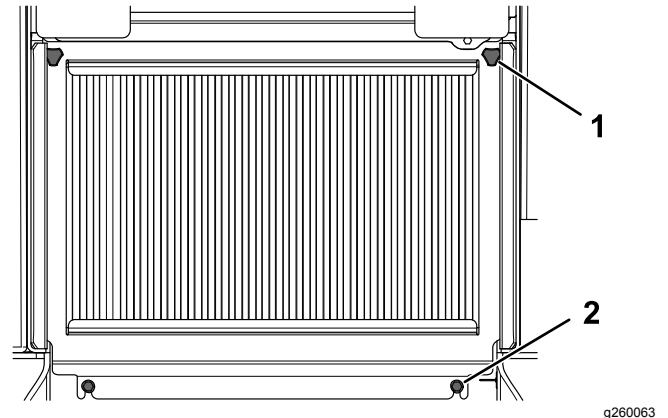

Figure 40
2. Loosen the 2 bolts securing the bottom of the screen (Figure 40).
3. Loosen the 2 knobs on the screen (Figure 40).
1. Knob (2)
2. Bolt (2)
4. Lift the screen and remove it (Figure 40).